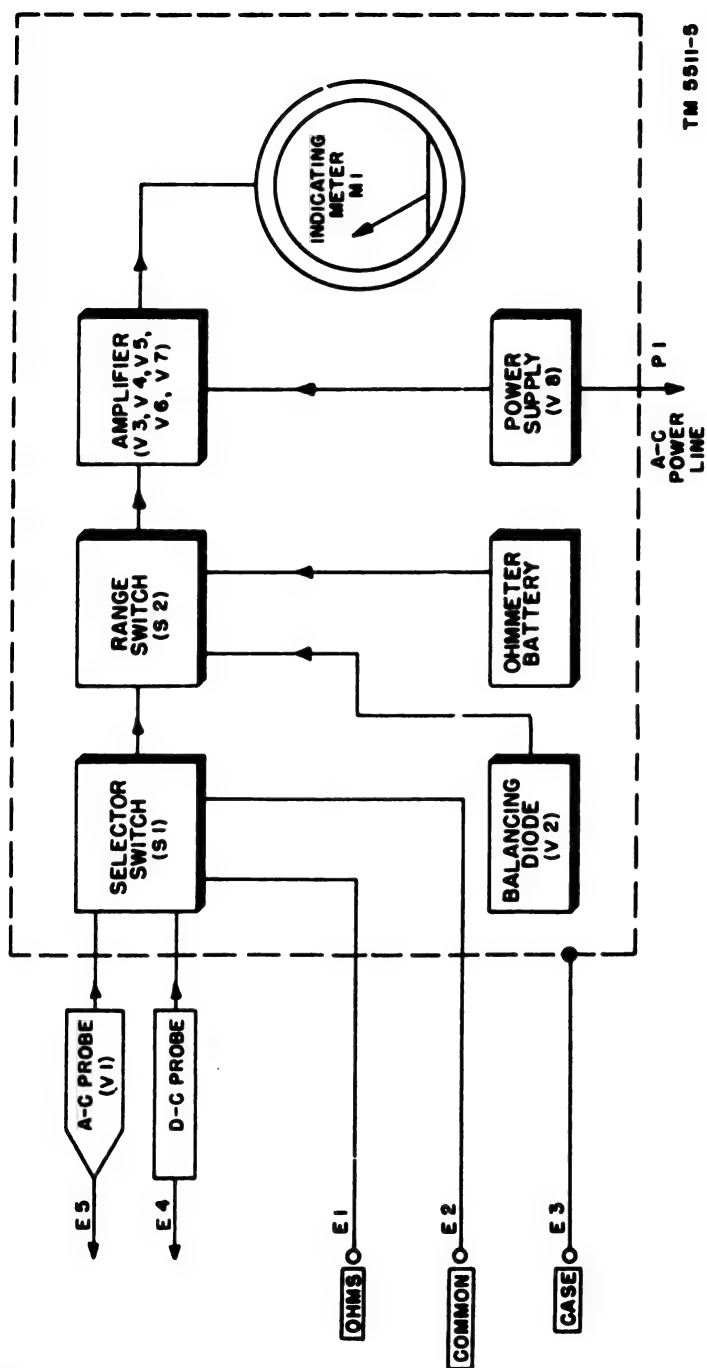

Figure 3. Electronic Multimeter TS-503/U, block diagram.
*c. INDICATING METER.* The indicating meter is a 0- to 1-ma movement with the appropriate scales (fig. 3) printed on the face.